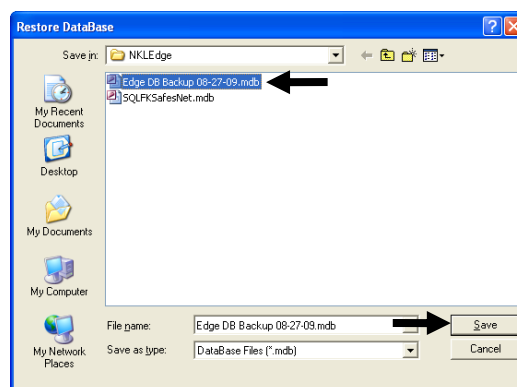

Fig 10.8
- 2) Select the database that you want to restore and then select **Save** to complete the process (Fig. 10.8).